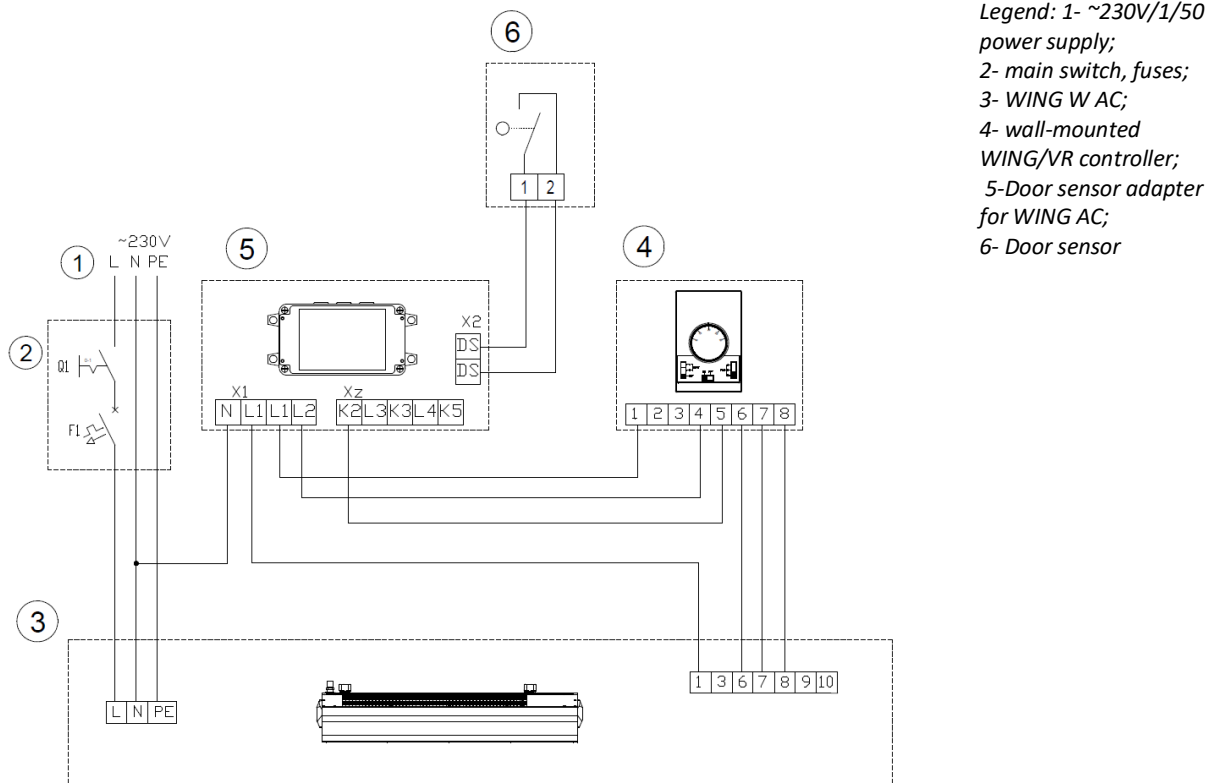

Figure 1 – W100 AC, W150 AC, W200 AC connections
4.1 For connecting with WING W100 AC; W150 AC; W200 AC models, apply connections like shown on Figure 1.
4.2 For connecting with WING C100 AC; C150 AC; C200 AC models, apply connections like shown on Figure 1.
4.3 For connecting with WING E100 AC; E150 AC; E200 AC models (~400V/3/50Hz), apply connections like shown on Figure 1.